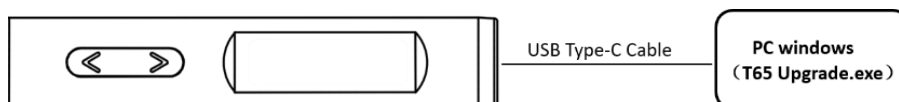

Figure 10-1 Connection
Step 2: Power off the device, press and hold the B button, then use the USB Type-c cable to connect to the computer, power on the device, about 4 seconds, the screen displays "Upgrade...", then release the button. The operation is shown in Figure 10-1 below: